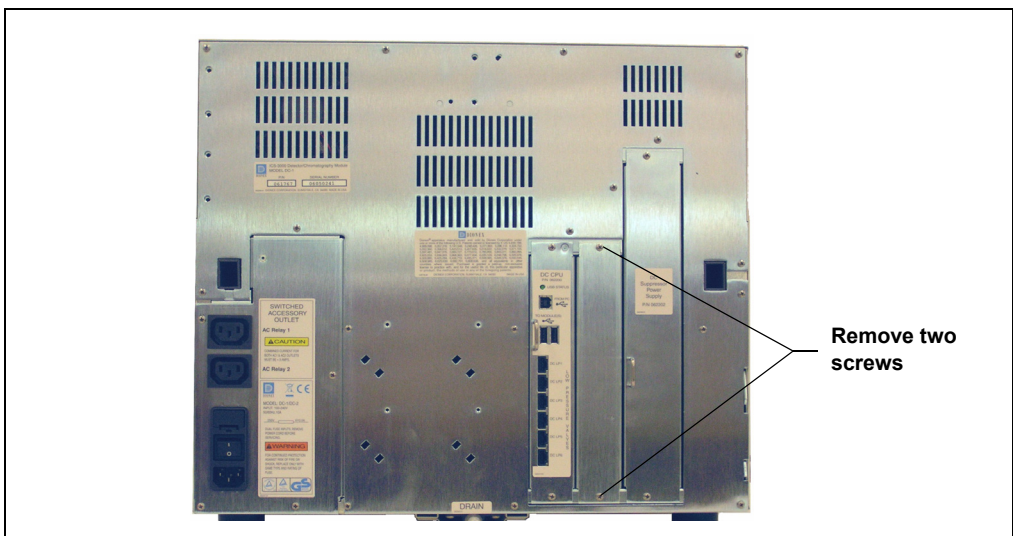

Figure 9-26. DC Rear Panel: Removing the I/O Option Cover Plate
4. On the DC rear panel, remove the two screws that attach the I/O option cover plate or the existing I/O option board to the rear panel (see Figure 9-26). Save the screws.